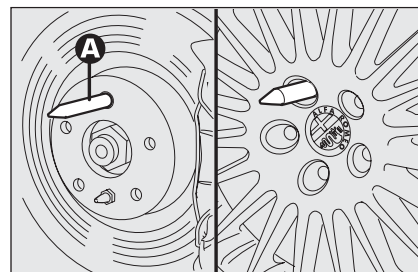

fig. 10
- ☐ tighten pin **A-fig. 10** in one of the holes of the wheel hub fastening bolts;
- ☐ loosen pin **A-fig. 10** and tighten the last fastening bolt;